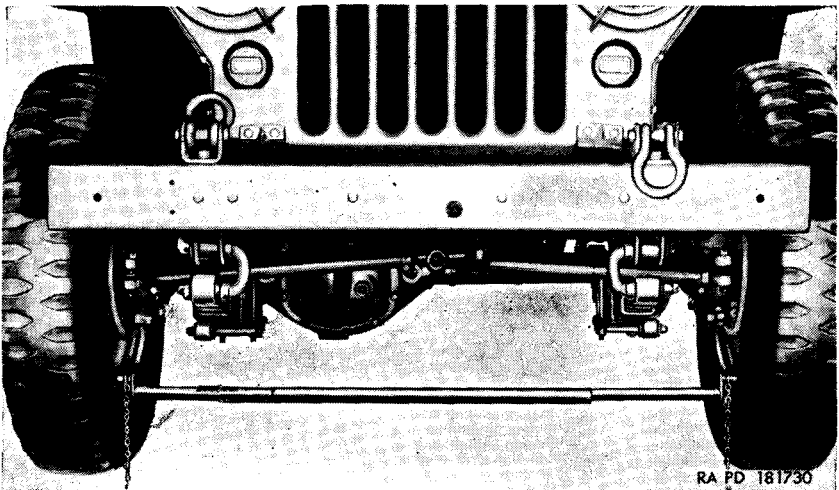
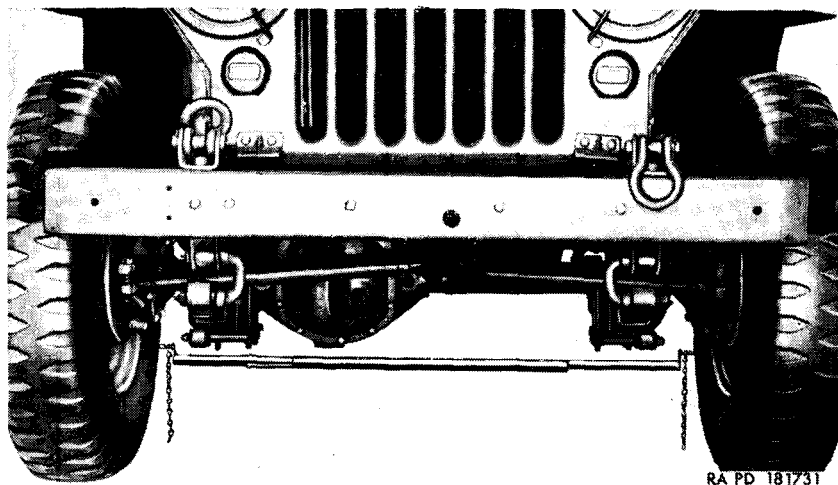

Figure 108. Toe-in gage in place ahead of axle.
Figure 109. Toe-in gage in place behind axle.
b. After both wheels are at straightahead position, place toe-in adjustment gage (fig. 108) between the wheels ahead of the axle, with the ends of the gage bearing against the tire side walls and with both pendant chains just touching the ground. Set gage so that pointer registers zero. Move the vehicle forward until gage is brought into position in back of the axle (fig. 109), with both pendant chains just touching the ground. The pointer will indicate the amount of toe-in or toe-out. Correct toe-in is $\frac{3}{32}$ to $\frac{3}{16}$ inch.